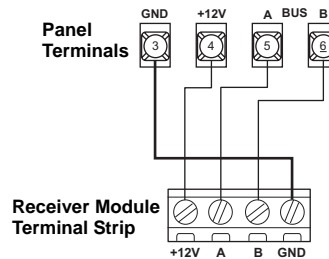

Figure 18. Wiring the SuperBus 2000 RF Receiver
2. Connect the receiver to the panel as shown in Figure 18.